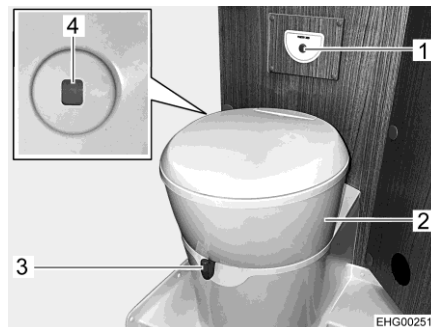

Fig. 112 Toilet
The toilet bowl can be rotated into the required position. In order to do this, grab the toilet's upper part (Fig. 112,2) with both hands and rotate it.
The operating unit with the flush button (Fig. 112,1) is installed near to the toilet bowl.
- Before flushing open the sliding trap of the toilet. To do this, push the slide lever (Fig. 112,3) in an anticlockwise direction.
- For flushing, press the blue flush button (Fig. 112,1).
The colour of the level indicator (Fig. 112,4) changes from green to red whenever the sewage tank has to be emptied.